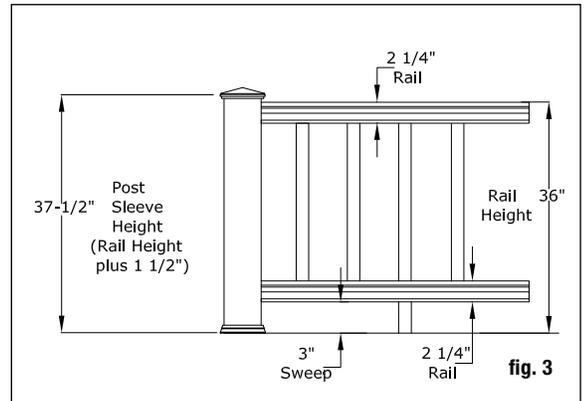

fig. 3
**Step 5** Trim 4x4 post sleeves to length. If you plan to use a post cap, post sleeves should be a minimum of 1-1/2" longer than the railing height. (fig. 3). Example: For a 36" high railing, trim post sleeve to a minimum of 37-1/2", or longer if desired. Slide a trimmed post sleeve over each 4x4 railing post. Use shims as needed to create a snug fit. Slide a post base trim over each post sleeve.
**Step 8** Assemble the lower inner rail and support block assembly. A support block is needed every 2' on-center. Check building codes for a maximum spacing between deck surface and bottom of rail (sweep). A 3" sweep is recommended, but can be more or less if codes allow (fig. 3). Trim support blocks to desired height and pre-drill 1/8" holes in the proper locations. Holes must be centered on the inner rail for support blocks to fit properly. Using the support block connectors, fasten support blocks to the underside of the inner rail.
**Step 10** Determine the length of the balusters. Figure 3 illustrates how a 36"-high railing might be sized. Starting with a 3" sweep + 2" for the bottom railing, 29" baluster height + 2" for the top rail = a 36" rail height. Use 29" balusters for a 36" rail height. Use 35" balusters for 42" railings. If you want to have your railing at a different height, use figure 3 as a planning tool to determine the height to cut the post sleeves and the balusters.
**Step 8** Determine the length of the balusters. Figure 3 illustrates how a 36"-high railing might be sized. Use figure 3 as a planning tool to determine the height to cut the post sleeves and the balusters. The balusters will need to be miter cut to the proper stair angle. Push the preinserted connector into the baluster approximately 1/4" and trim the balusters to the required angle and length.